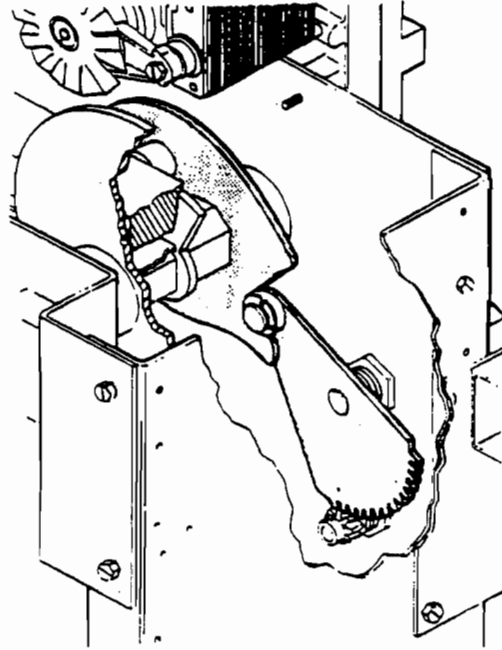

FIGURE 3.11
5. Confirm that the cam follower is in the deepest valley of the rear cam (See Figure 3.11) by cycling the brewer to this position. This position of the cam and follower guarantees that the brewer is in the dump position.
8. While holding the follower in the valley of the cam, (see FIGURE 3.11) install the outer section of the cable spool over the inner section. Release the follower and spool and check that the clearance set above is maintained. If so, make a new reference mark across the spool and remove the outer section of the spool and rotate it counter-clockwise one tooth-skip to Step 10.